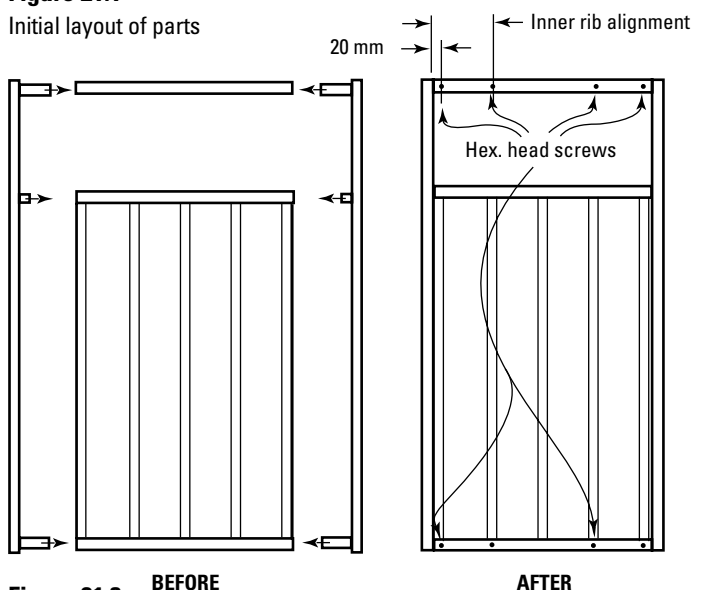

Figure 21.3
8. Hold both stiles firmly in place and drive one hex. head screw (#10-16x16) in each of the four corners, 20mm from the inside edge of the stile (Figure 21.3).